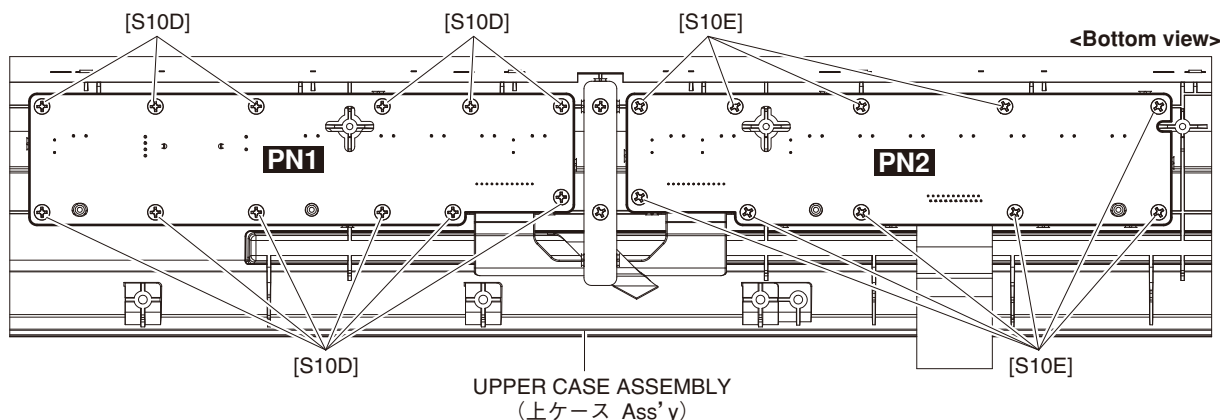

Fig. A-6 (図 A-6)
- A-7-4. Remove the twelve (12) screws marked [S10D]. The PN1 circuit board can then be removed. (Fig. A-6)
(図 A-6)
- A-8-3. Remove the ten (10) screws marked [S10E]. The PN2 circuit board can then be removed. (Fig. A-6)